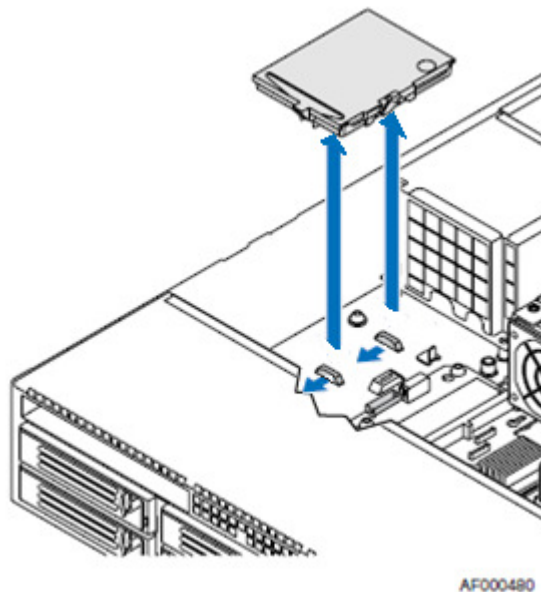

FIGURE 2 – Removing the Clamshell
3. Slide the clamshell enclosure toward the front of the system to disengage it from the clips, and remove it from the chassis (see Figure 2).